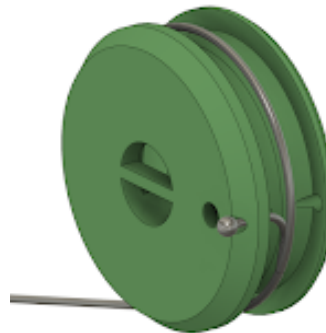

Figure 3.8: Loaded String Spool (Green).
10. Wind the String around the spool until ~12 in. of the string remains unwinded (Figure 3.8).